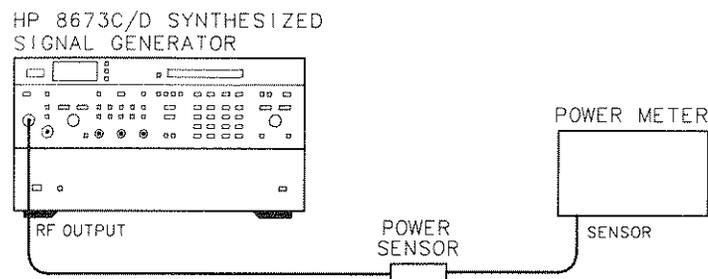

Figure 4-21. Output Level and Flatness Test Setup
1. Connect the equipment as shown in Figure 4-21.